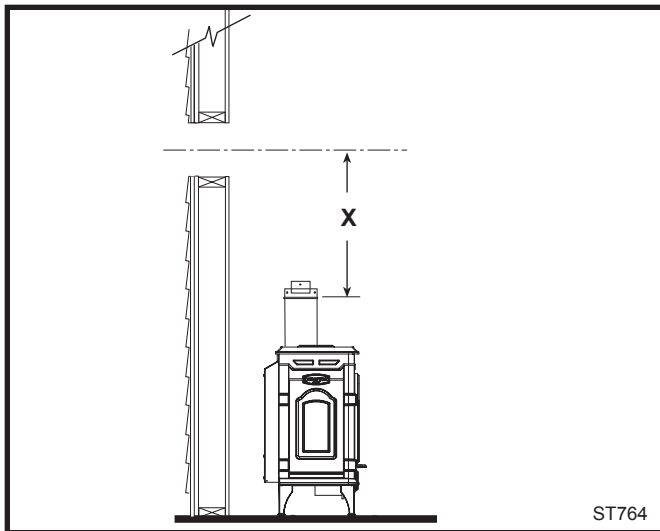

Fig. 24 Determine the vertical pipe length.
4. For MHSC Vent Pipe only: If necessary, measure to determine the vertical length (X) of pipe required from the adapter pipe to the wall cutout centerline, including a 2" (51mm) overlap at the joint. (Fig. 24) use a hacksaw or tin snips to trim the pipe as needed.